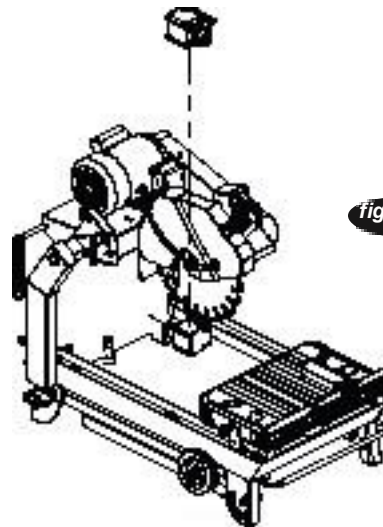

figure 5
3. If no water bucket is available, place the water pump inside the water tray behind the splash guard (figure 5).